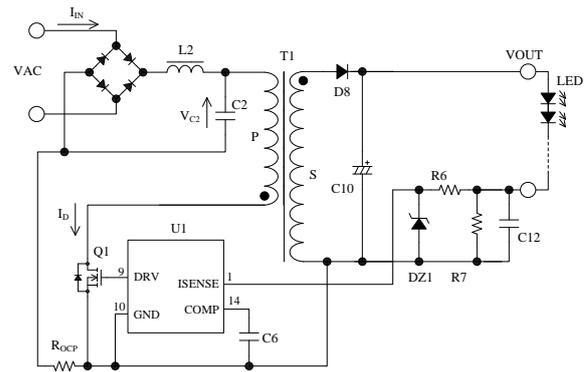
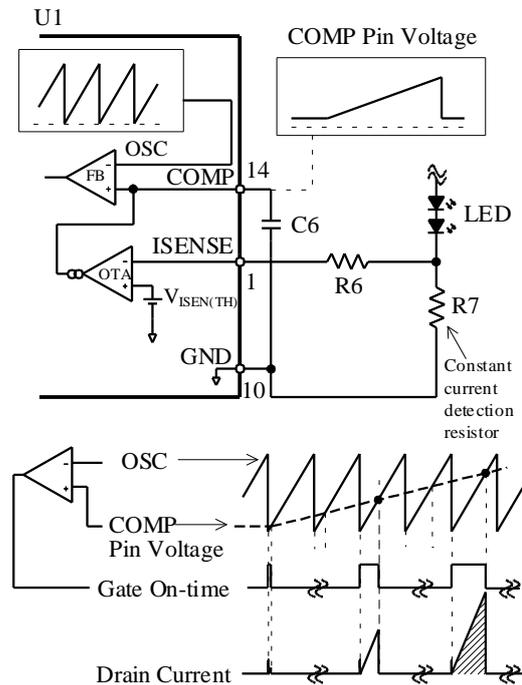
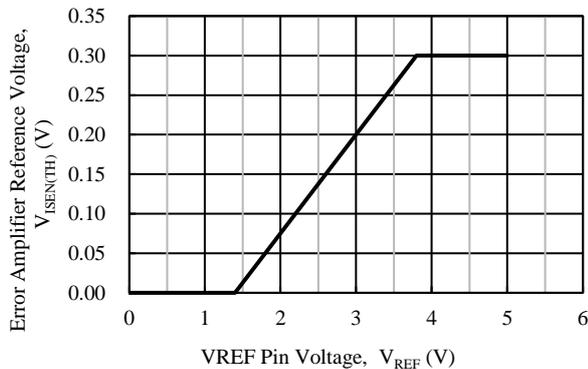

Figure 9-6. COMP Pin Peripheral Circuit
Figure 9-7. On-time Control
Figure 9-9. VREF Pin Voltage vs.  $V_{ISEN(TH)}$
(2) See Figure 9-9.  $V_{REF}$  Pin Voltage vs.  $V_{ISEN(TH)}$ .
Figure 9-6 shows the peripheral circuit of the COMP pin, whereas Figure 9-7 shows the on-time control. The output is controlled to depend on the output current with the voltage mode which controls an on-time, and average current control.
As shown in Figure 9-7, the average current control of the IC compares the voltage drop of the constant current detection resistor and the internal error amplifier reference voltage,  $V_{ISEN(TH)} = 0.300$  V by the OTA circuit to average the OTA circuit output at C6 connected to the COMP pin. The IC compares the COMP pin voltage with the internal oscillator (OSC) output by the FB comparator to control the on-time. The OSC is the circuit to control operations such as the PWM frequency, the quasi-resonant oscillation, and the maximum on-time limit.
In the average current control, the IC compares the voltage drop of the constant current detection resistor and the internal error amplifier reference voltage  $V_{ISEN(TH)}$  in the OTA circuit (see Figure 9-7). The relationship between VREF pin and  $V_{ISEN(TH)}$  is shown in Figure 9-9, and this characteristic is used for dimming. The applied voltage for dimming is about 1.4 V to 3.8 V.